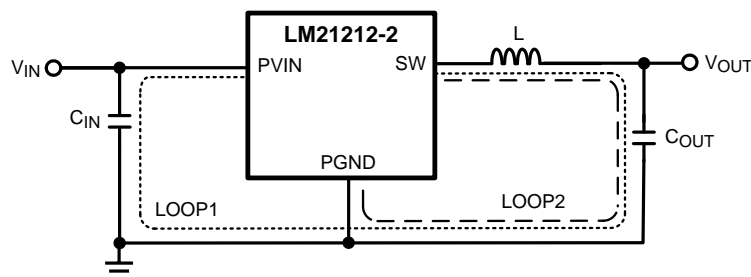

Figure 35. Schematic of LM21212-2 Highlighting Layout Sensitive Nodes
1. Minimize area of switched current loops. In a buck regulator there are two loops where currents are switched at high slew rates. The first loop starts from the input capacitor, to the regulator PVIN pin, to the regulator SW pin, to the inductor then out to the output capacitor and load. The second loop starts from the output capacitor ground, to the regulator GND pins, to the inductor and then out to the load (see Figure 35). To minimize both loop areas, the input capacitor must be placed as close as possible to the VIN pin. Grounding for both the input and output capacitor must be close. Ideally, a ground plane must be placed on the top layer that connects the PGND pins, the exposed pad (EP) of the device, and the ground connections of the input and output capacitors in a small area near pins 10 and 11 of the device. The inductor must be placed as close as possible to the SW pin and output capacitor.